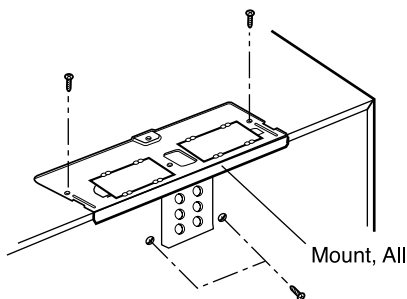

Figure 18
- (2) Remove the two screws securing the MOUNT, ALL and one screw securing the ventilation fan assembly. (See Figure 18)